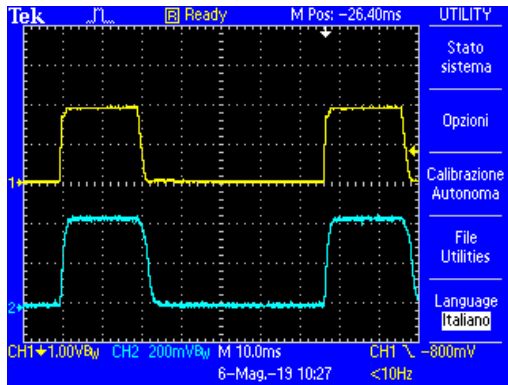

Fig. 5a
- Check that the resulting values are correct respect values in the table below and then check the wave-length by comparing it to the typical wave-lengths shown in figures 5a (60 kV) and 5b (100 kV).